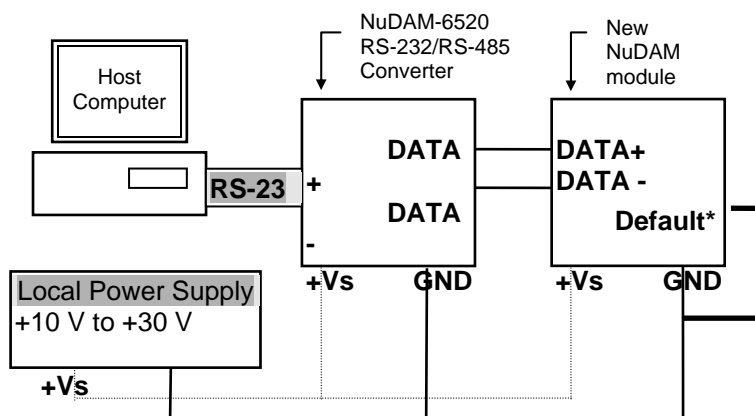

Figure 7-1 Layout for Initialization the NuDAM module
2. Connect a brand-new NuDAM module with the RS-485. Set the module in *Default State* by shorting the **DEFAULT\*** pin. Refer to Figure 7-1 for detailed wiring.